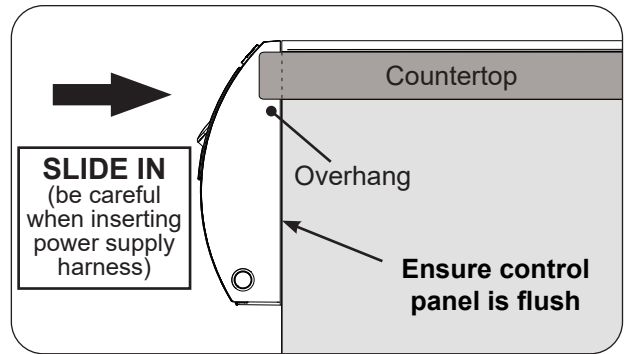

Fig. 28-1 Slide in unit (ensure flush)
- Ensure the unit fully slides in so that the control panel sits flush against the enclosure front wall. See Fig. 28-1 and see the COUNTERTOP OVERHANG section in ENCLOSURE REQUIREMENTS for details.